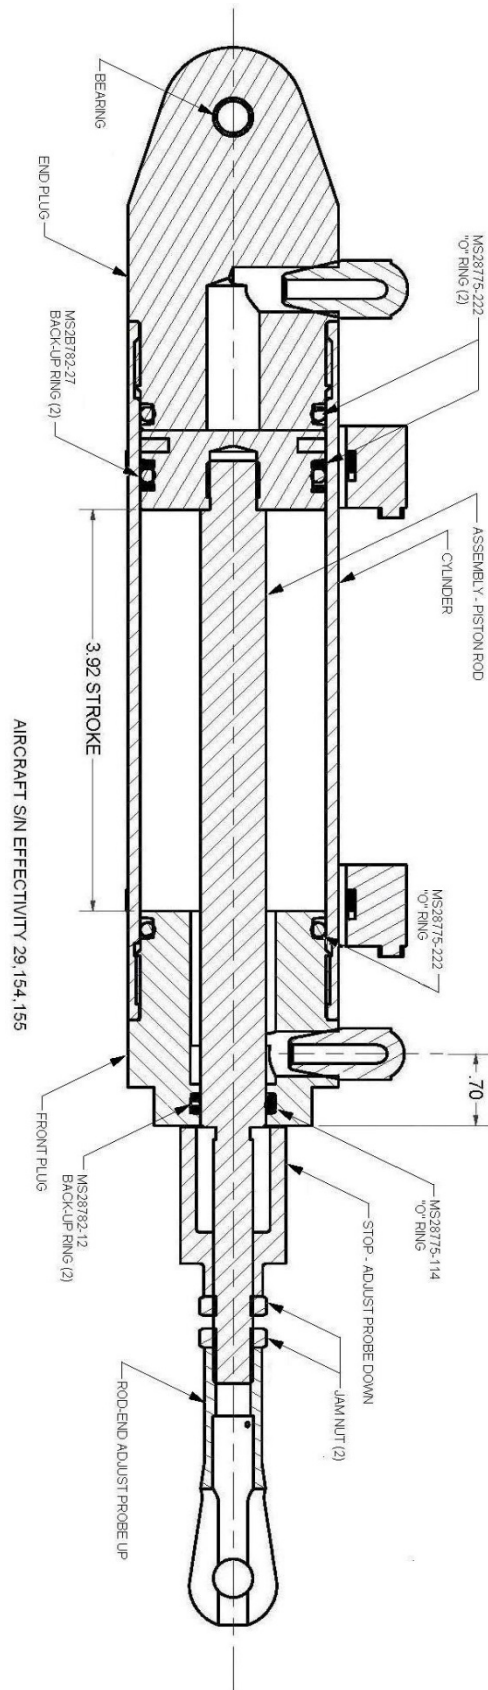

FIGURE 4.2 ASSEMBLY – CYLINDER PROBE JACK
The lower probe assembly is set at the factory for full open and close positions. Any adjustment necessary to the probe is accomplished by adjusting the probe jack cylinder. Figure 4.2 shows a cross section of the cylinder. Remove hydraulic lines before adjusting. The adjustment for probe full open is the large bushing on the cylinder shaft. Loosen the jamb nut and adjust so lower probe seats firmly on upper scoop jamb and not loose. Bushing to bottom out on cylinder body at same time probe seats firmly on jamb. The cylinder shaft rod end adjusts the up stop. Loosen the jamb nut and turn rod end. The piston to be bottomed out inside the cylinder is when the scoop is above the lower most part of the main keel by approximately 1/8". After adjustment reconnect hydraulic lines and cycle probe for proper operation. Check if probe up and down position lights are operating properly.
Figure 4.2 shows a cross section of the hydraulic probe cylinder. Replace “O” rings if cylinder shows signs of leaking. A gasket is between upper probe and internal tube at connecting clamp. Replace if necessary. Check condition of connecting hose and clamps above float deck (2) each side. Inside of aircraft tank on each inlet tube there is a rubber flapper valve or a platypus type valve. Check if valve is closing tight and condition of valve. Replace if necessary.